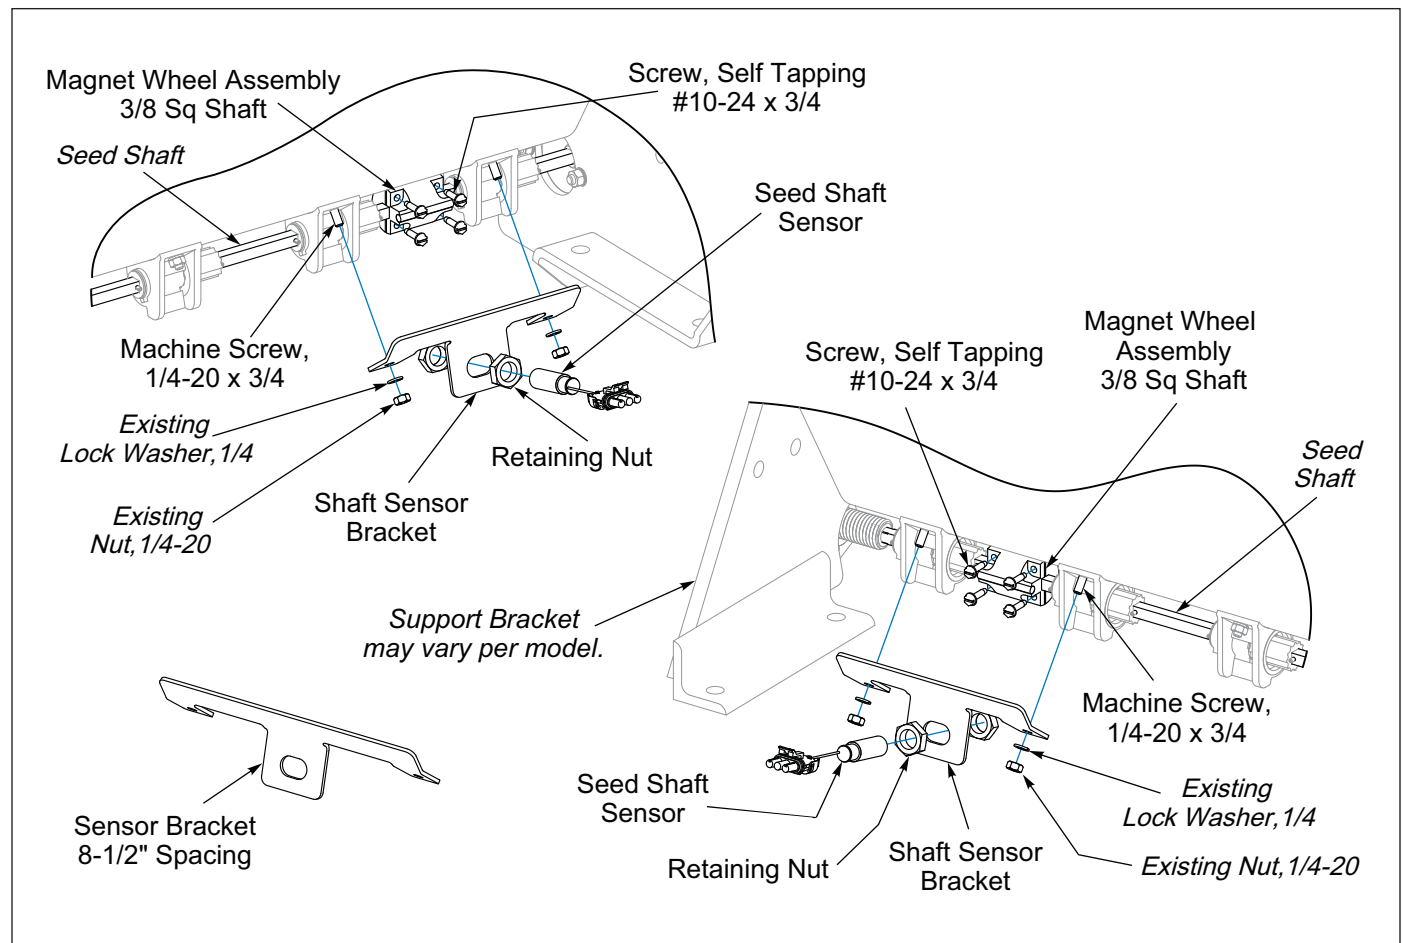

Figure 2-45: Console w/Clutch Control - Front Seed Box Seed Shaft Sensor
1. Remove the four 10-24 x 3/4 Self Tapping Screws from the Magnet Wheel Assembly. **See Figure 2-45.** Position the rounded half of the Magnet Wheel Assembly on the seed shaft. Ensure it fits squarely onto shaft. Mount magnet half to the rounded half. Ensure it fits squarely onto shaft.